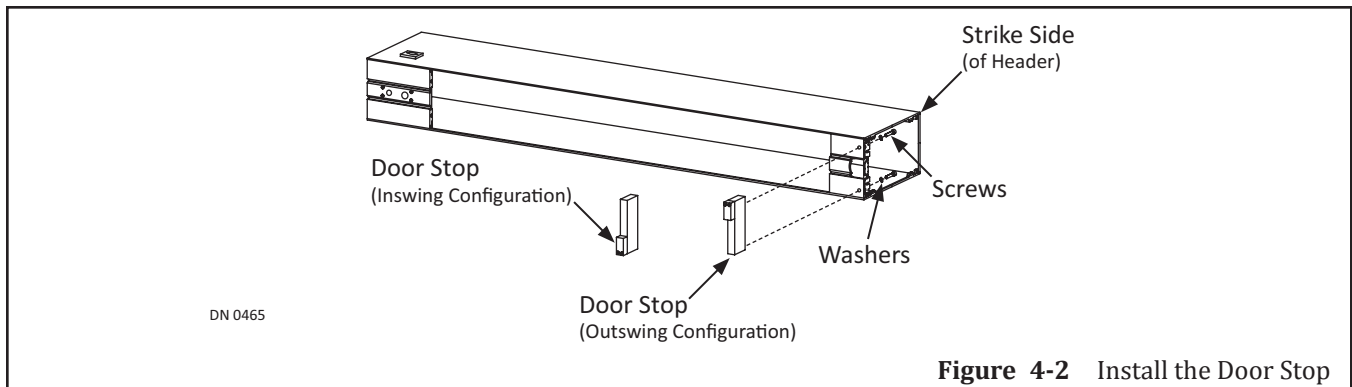

Figure 4-2 Install the Door Stop
2. Remove (4) Socket Head Cap Screws and (4) Washers. Set aside.
3. Go to the bottom, Pivot side of Header. Butt the Door Stop against the underside of the 3-1/4 inch Strike Base. Please see Figure 4-2.
4. Secure Door Stop from inside Header with (2) Socket Head Cap Screws and (2) Washers.